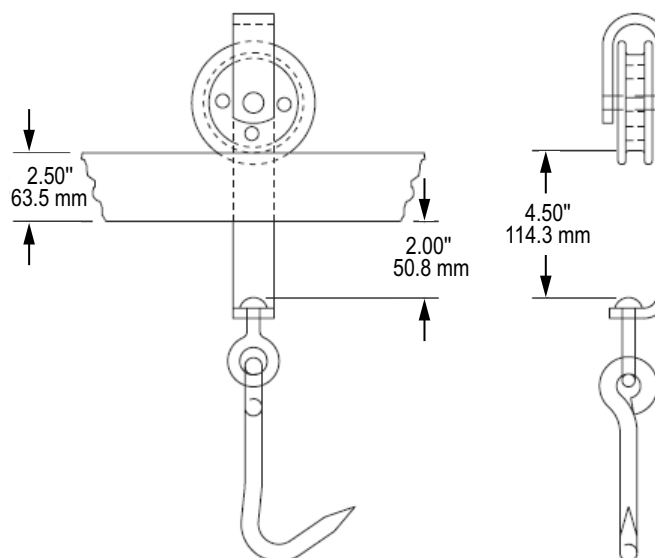

Figure 2-1. Minimum Clearances for Trolleys
Before installing the portable monorail scale, check the trolleys used in the plant to ensure there is adequate clearance between the top of the swivel hook and the bottom of the scale (Figure 2-1).
1. Check that all trolleys using the scale have adequate clearance to fit on the scale. See Figure 2-1 on page 9 for minimum clearance size.